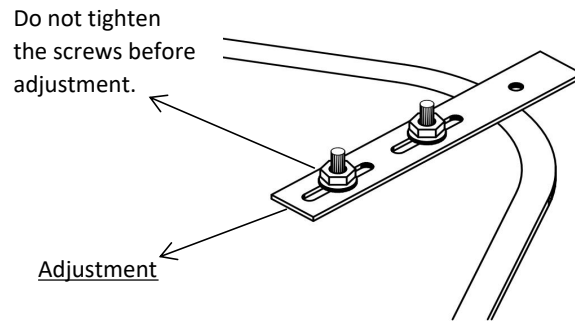

Figure2
- ③ Place the metal bars onto the bath, along with the washers and nuts as shown below, do not tighten at this stage to allow for adjustment, taking care not to damage the bath surface. See Figure 2